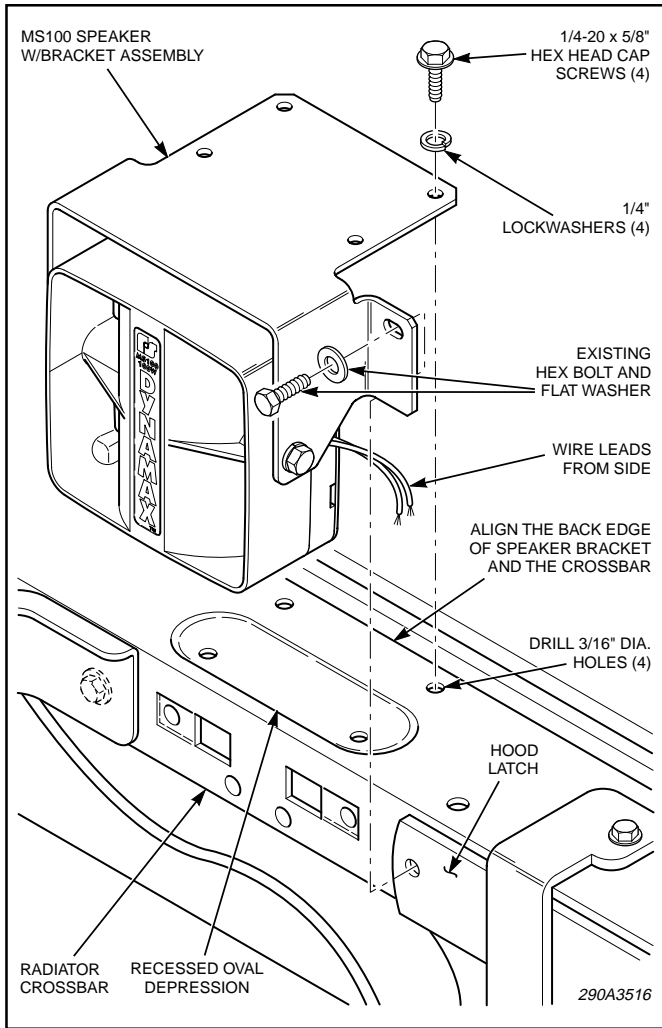

Figure 3.
4. See figure 3. Remove and retain the screw on the left side of the hood latch mechanism. Locate the top of the radiator crossbar, to
7. To complete the mounting, secure the speaker/bracket in position using the 1/4" x 5/8" thread-forming screws and split lockwashers. See figure 3.